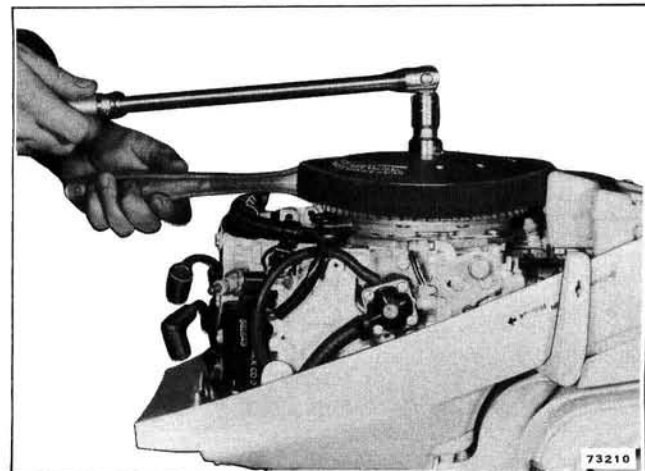

Figure 4-35. Removing Flywheel
b. To remove the flywheel install OMC Universal Puller (Special Tool No. 378103) to the flywheel and tighten the center bolt. See Figure 4-35.